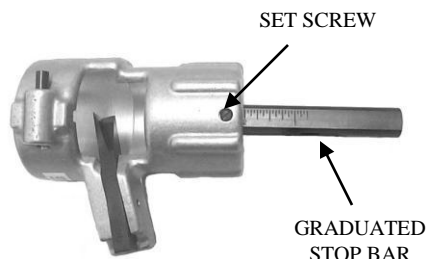

Fig. 3
Step 3. (Fig. 3) To adjust the stop bar for desired length of conductor exposure, loosen set screw located on the end of the tool body directly above the stop bar. Adjust the stop bar to the desired length of insulation to be stripped and tighten the set screw.